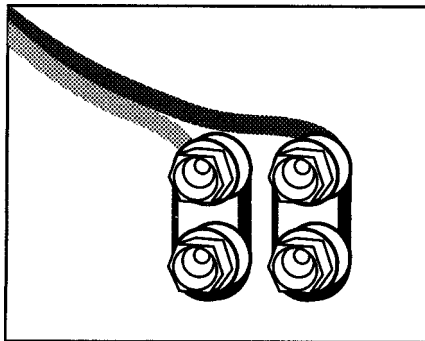
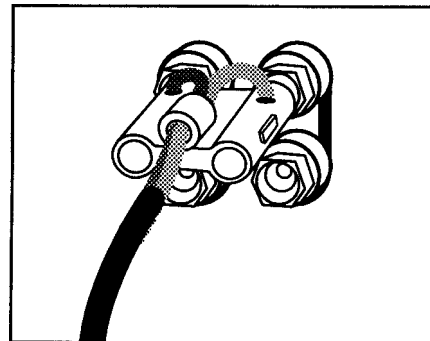

Figure 14A. Screw terminal
Figure 14B. Banana plug
C. Connect the harness's other end to the speaker terminals on your amplifier with either screw lugs (**Figure 14A**) or a banana plug (**Figure 14B**). Connect the red wire to the positive (+) terminal and the black wire to the negative (-) terminal.